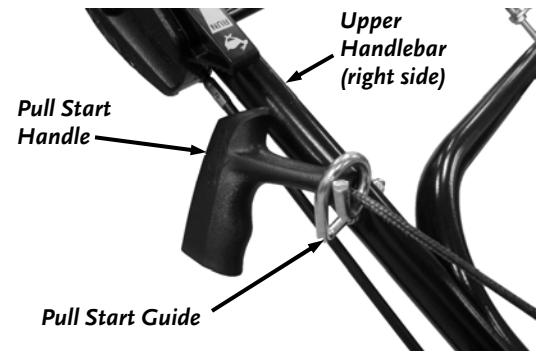

Figure 7
1. Pull the Pull Start Handle from the Engine up to the Pull Start Guide and insert the Rope into the Guide as shown (**Figure 7**).